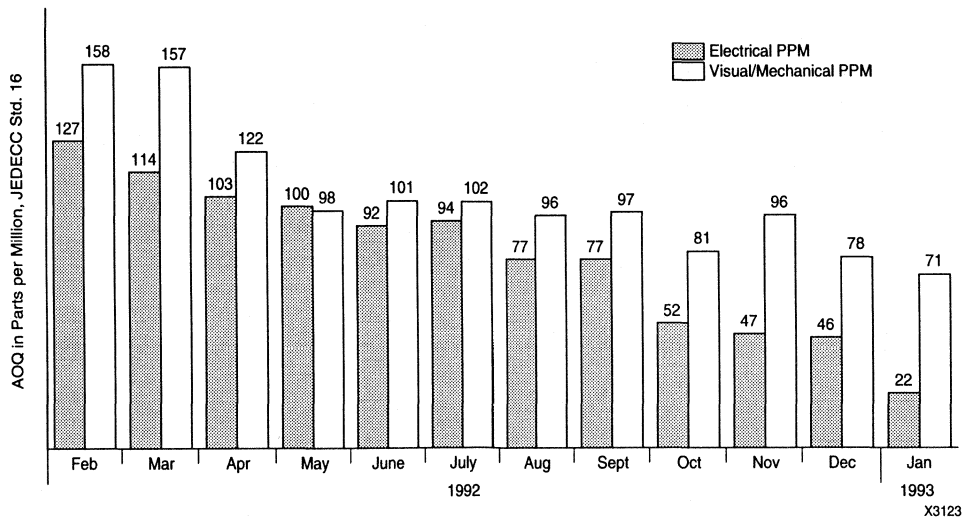

Figure 1. Xilinx Average Outgoing Quality – Mature, High Volume Products
Xilinx calculates its outgoing component quality level, expressed in PPM (defective parts per million devices shipped) using the industry standard methods now adopted by JEDEC and published in JEDEC Standard 16. These figures of merit are revised monthly and published quarterly by Xilinx Quality Assurance. Figure 1 details Xilinx efforts to improve the outgoing quality of its products over the last year. Summary data for this performance will continue to be made available for downloading from the Xilinx Electronic Bulletin Board at (408) 559-9372 (1200/2400 baud; eight data bits; no parity; one